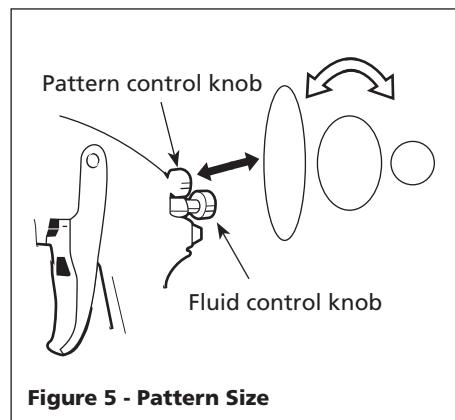

Figure 5 - Pattern Size
2. Set pattern size to desired shape. For full pattern, open pattern control knob by turning counterclockwise. For a round pattern, turn pattern control knob clockwise (See Figure 5).
3. Turn fluid control knob fully clockwise until closed (See Figure 5).
5. Unscrew packing nuts and replace the packing ONLY if a leak will not stop when the nut is tightened (See Figure 5). Do not over-tighten a packing nut because this will restrict movement of the needle.